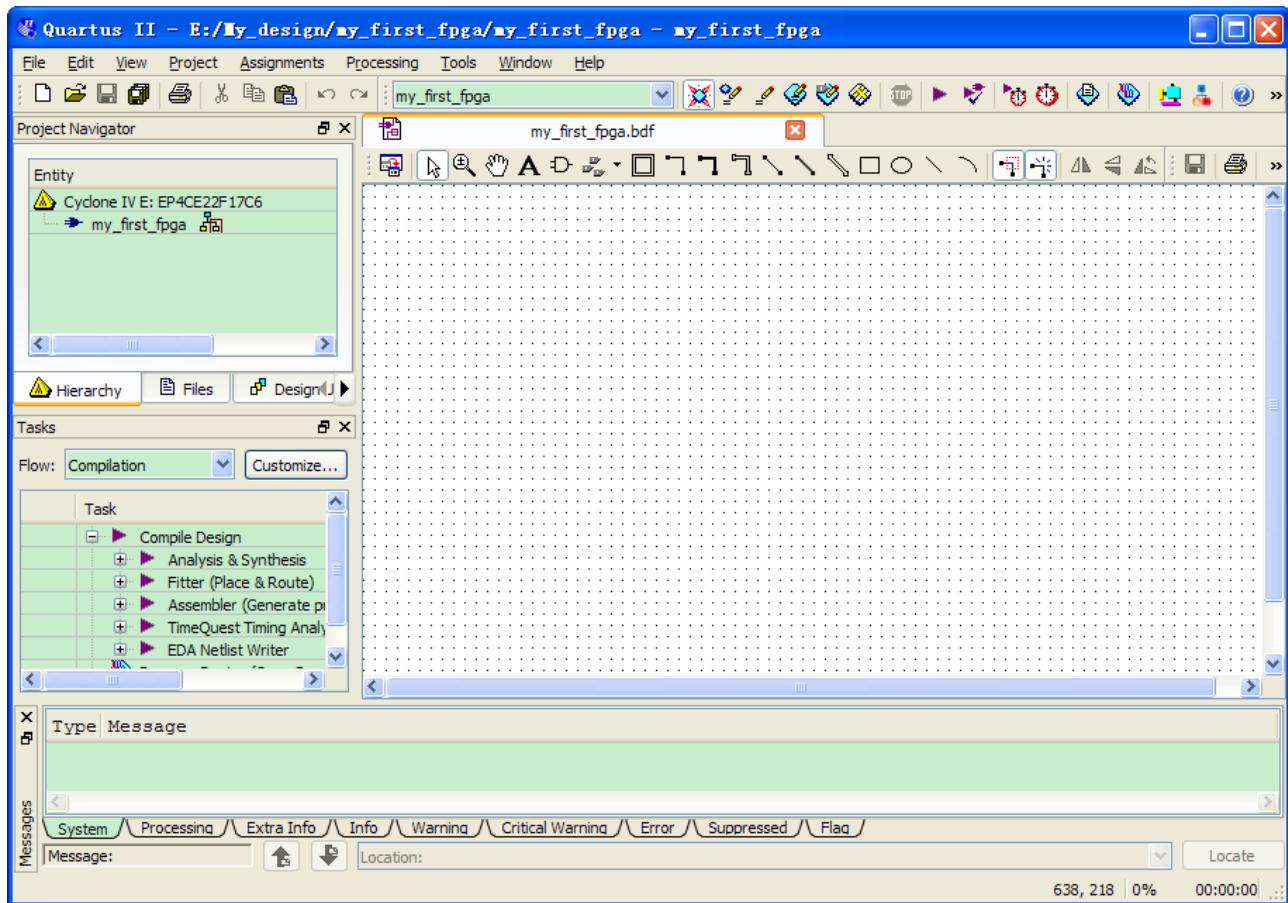

Figure 6-13 Bank BDF
4. Click **Save**. The new design file appears in the Block Editor (see **Figure 6-13**).